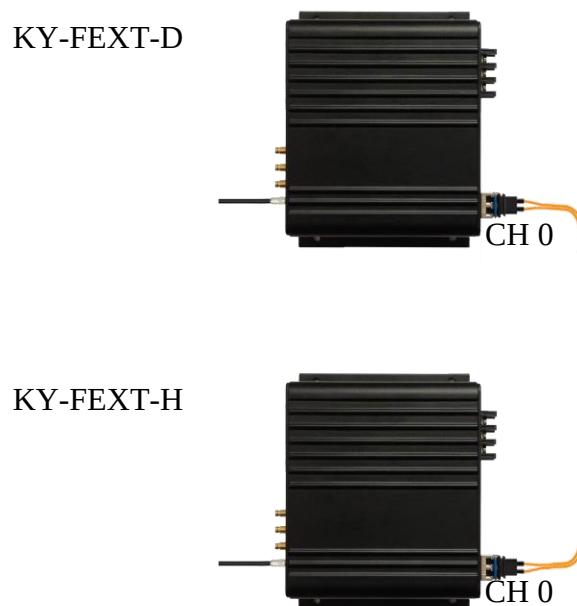
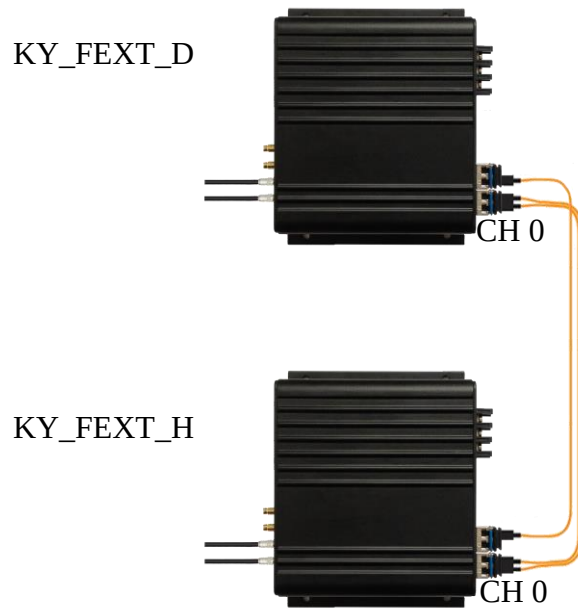
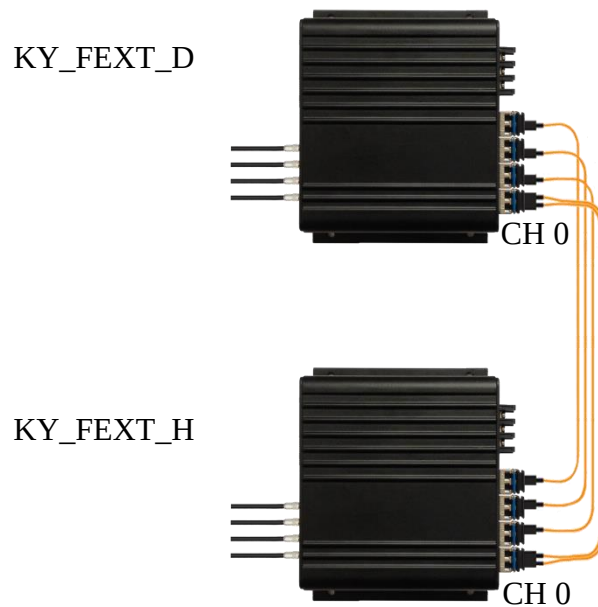

Figure 6 : Single connectivity order
Figure 7 : Dual connectivity order
Figure 8 : Quad connectivity order
4.1. Single connectivity, as described in Figure 6:
4.2. Dual connectivity, as described in Figure 7:
4.3. Quad connectivity, as described in Figure 8:
5. Connect the Coax cables in the right order, as shown in Figure 6, Figure 7 or Figure 8.